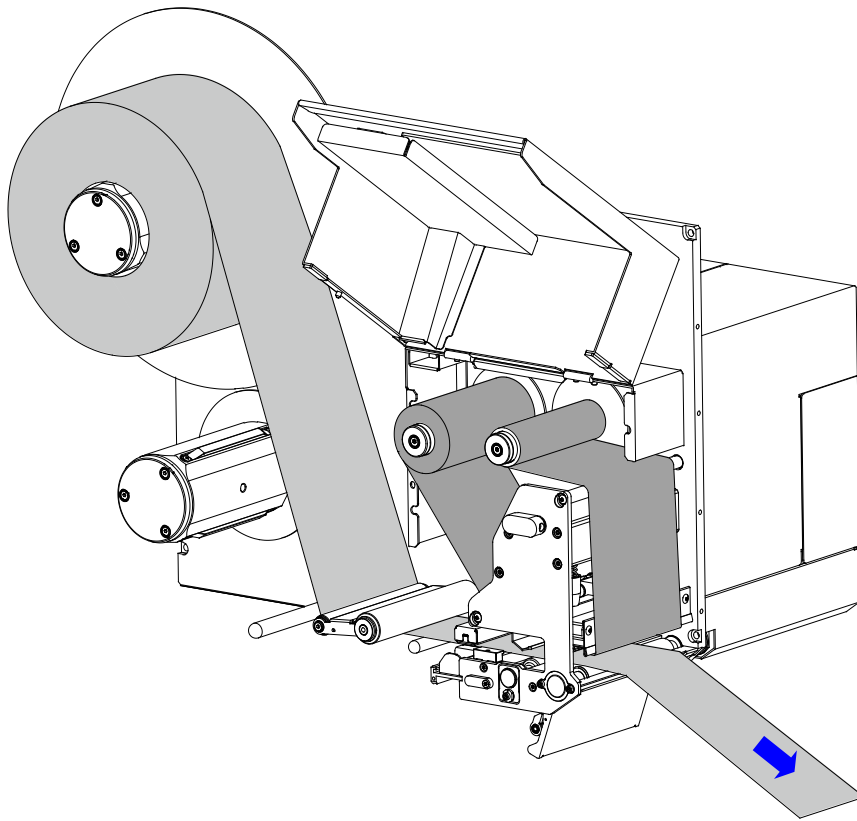

Figure 2-27 Extend the Media
8. Extend approximately 400 mm long media out of the printer. Peel off the face label(s) from the exposed media, leaving just the liner. As shown in Figure 2-27.